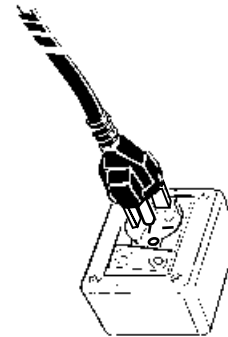

FIGURE 2
- For the system to be installed correctly and safely, it is essential to provide a suitable socket having a dedicated 20 Amp circuit which complies with the national safety standards in force (see FIGURE 2).